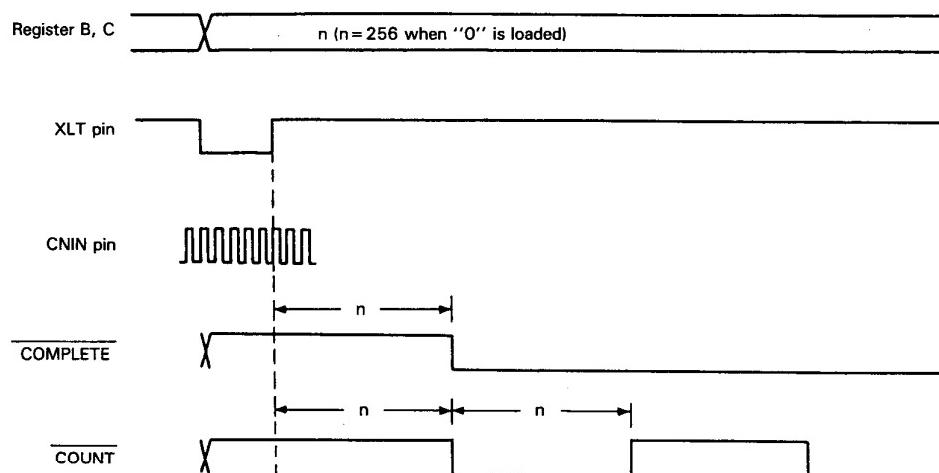

Fig. 2 Tracking counter timing chart
The tracking counter timing chart is shown in Fig. 2.
- (1) COMPLETE : Address (see note) is "B"; Shown in Fig. 2.
- (2) COUNT : Address (see note) is "C"; Shown in Fig. 2.
(3) PW \geq 64 : Address (see note) is "E"; This signal is of LOW level when the pulse width after bottom hold is over 63, and is of HIGH level otherwise. It is used for detection of a drop in the speed of the spindle motor after braking and so on.